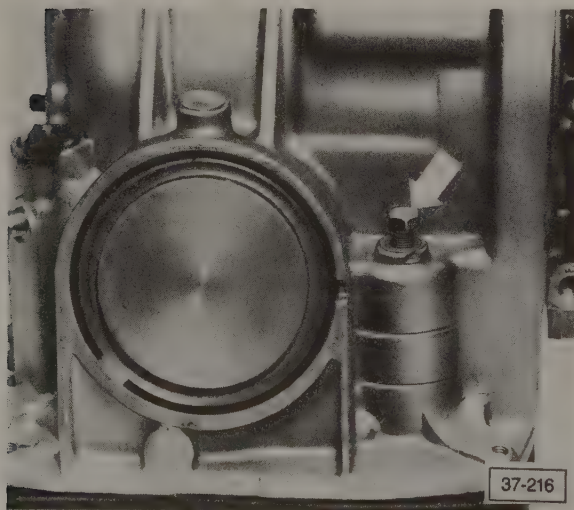

Fig. 3-1. Main pressure tap on transmission case, located on rear of transaxle near driver's side drive axle flange.
1. Connect the pressure gauge to the main pressure tap on the transmission, as shown in Fig. 3-1. Route the hose so that the gauge can be read from inside the car.